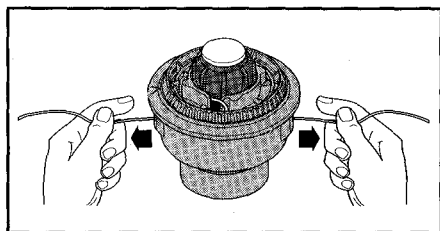

Fig. 23
7. If winding the line becomes difficult or the line jams, pull the ends of the line away from the spool (Fig. 23) and continue winding the inner reel **counterclockwise**.
Pull the ends of the line firmly away from the spool to release the inner reel (Fig. 23). If this procedure does not release the inner reel, follow the "Cleaning the SpeedSpool" instructions below.